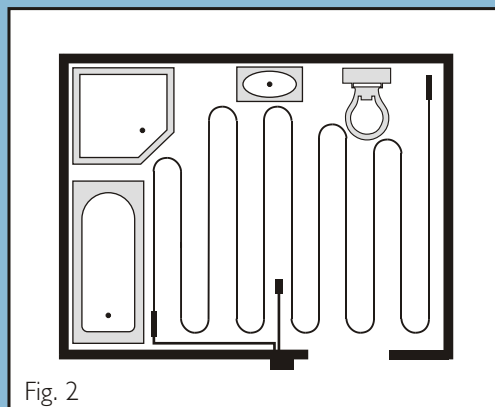

Fig. 2
- Type of heating - auxiliary (warm floor effect) (Figure 2);